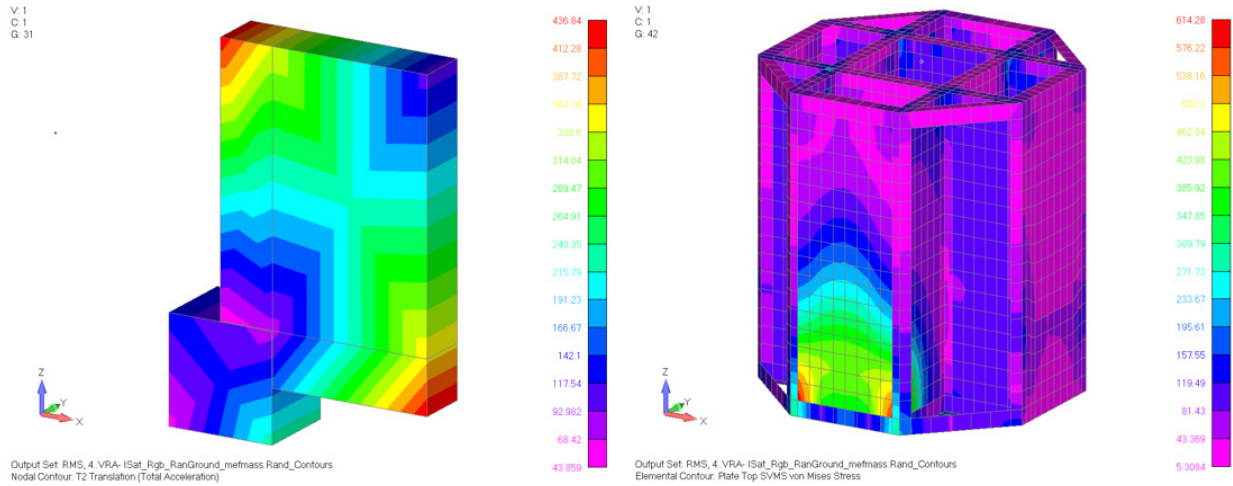
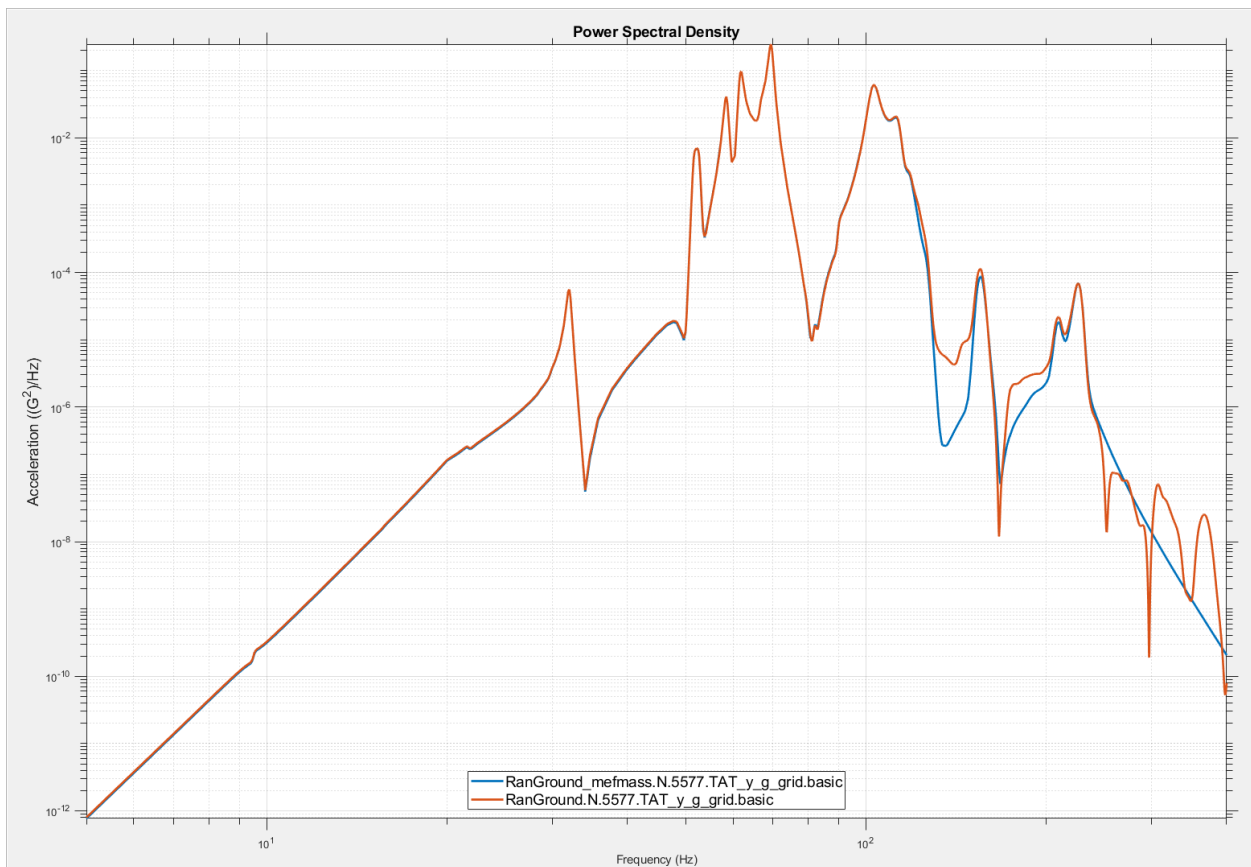
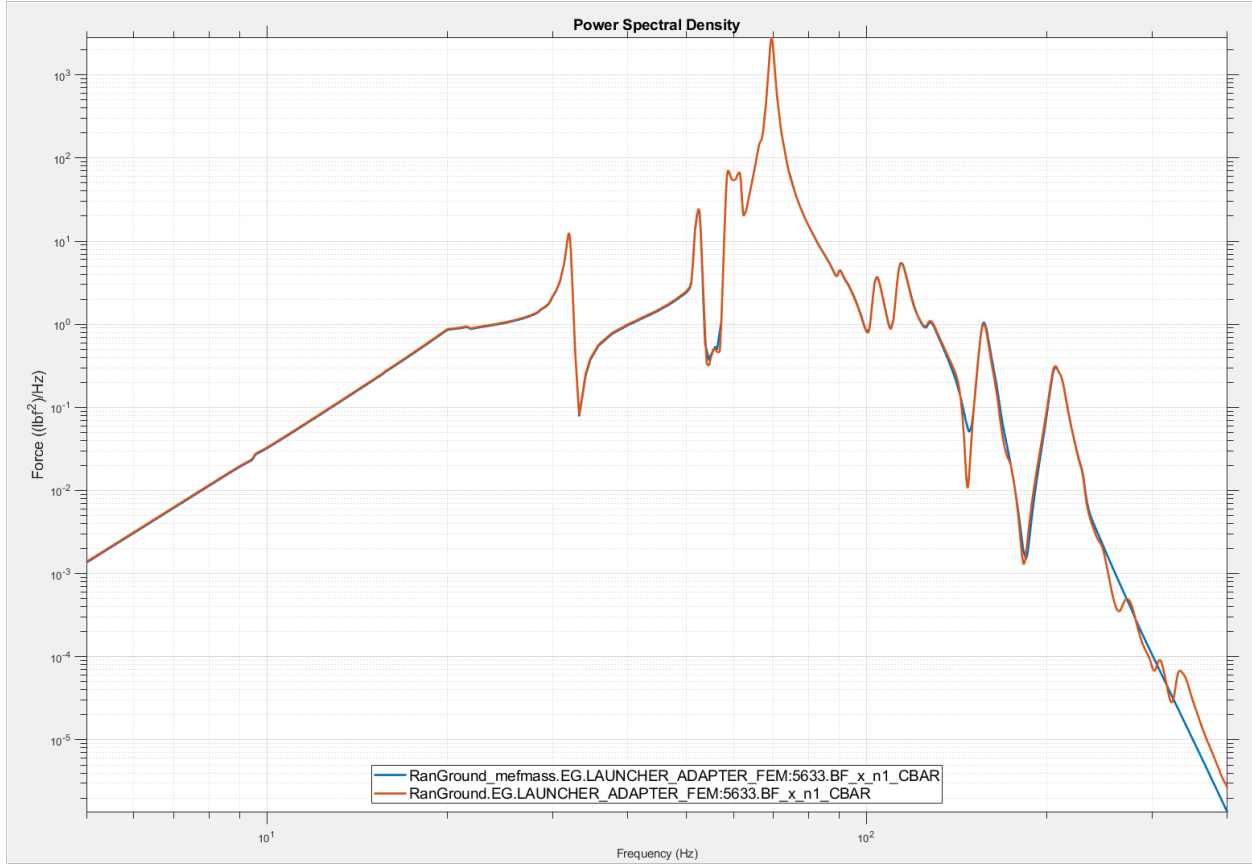

Figure 4-73. The mass-filtered contours are visually identical to those from the original event.
Figure 4-74. The node 5577 response shows differences at high frequencies, but RMS values match.
Figure 4-75. The adapter-leg axial force again shows differences only at high frequencies.
- Solve the event. Here again, the contour results (Figure 4-73) are visually indistinguishable from those of the original event (Figure 4-46, Figure 4-47). The XY Plot results, however, do show some differences. We deactivated all the modes from 240 Hz to 400 Hz, so neither the Y-acceleration response PSD (Figure 4-74) nor the axial force response PSD (Figure 4-75) has any dynamic content in that range, while the original event does. However, the RMS values for the two cases match to 3 significant digits for both acceleration and axial force. In these plots, the orange curve is for the current (mass-filtered) event, and the blue curve is for the original (all-modes-active) event.